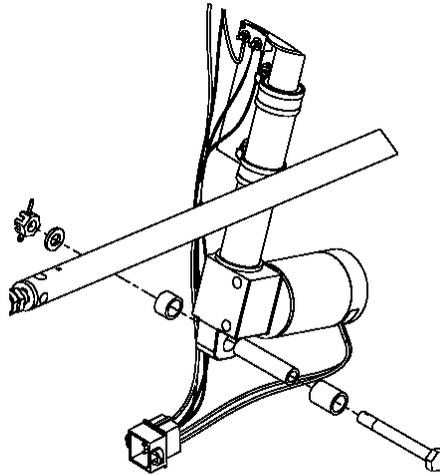

Figure 27-57 Trim Actuator to Airframe Installation
9. Wet assemble bolt securing motor end of trim actuator to airframe bracket. Verify position of bushings and rod. See Figure 27-57.